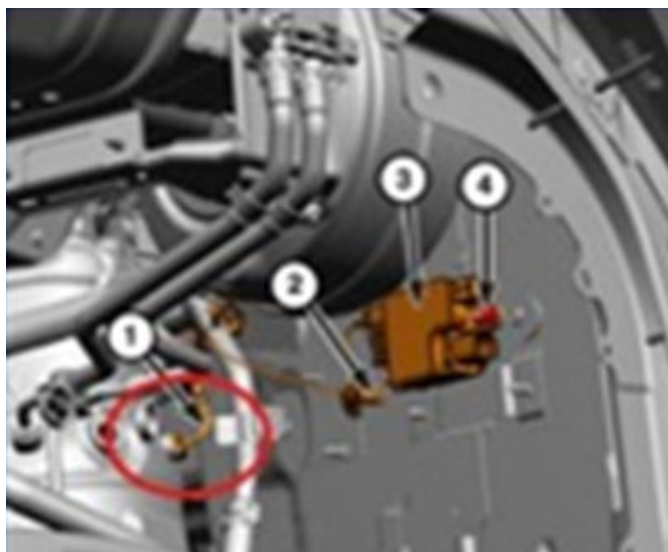

Fig. 1
5. Check the wiring harness routing and replace the steering transfer motor if found NOK with wire harness pinched Fig. 1 and Fig. 2. Refer to the detailed service procedures available in DealerCONNECT/Service Library under: Service Info> 08 - Electrical / 8E - Electronic Control Modules / Module, Drivetrain Control (DTCM) / Removal and Installation.